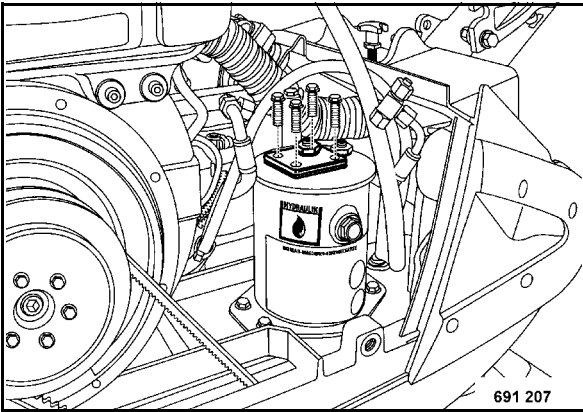

Fig. 76
- Disconnect the connecting flange (Fig. 76).